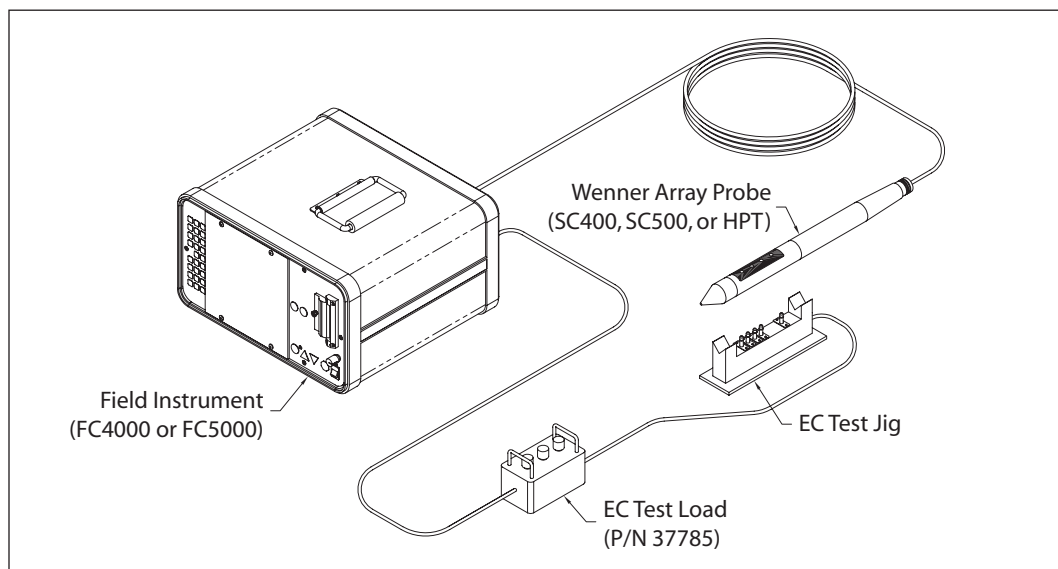

Figure 2: The EC Test Load is installed between the Field Instrument and EC Test Jig.
1. Install the EC Test Load by connecting the test load cord to the test jig port on the back of the Field Instrument. Connect the EC Test Jig cord to the EC Test Load as shown in Figure 2.
2. Place the Wenner array probe on the EC Test Jig. Orient the probe so that the Test Jig cord and the probe cord are on the same end (Fig.2).